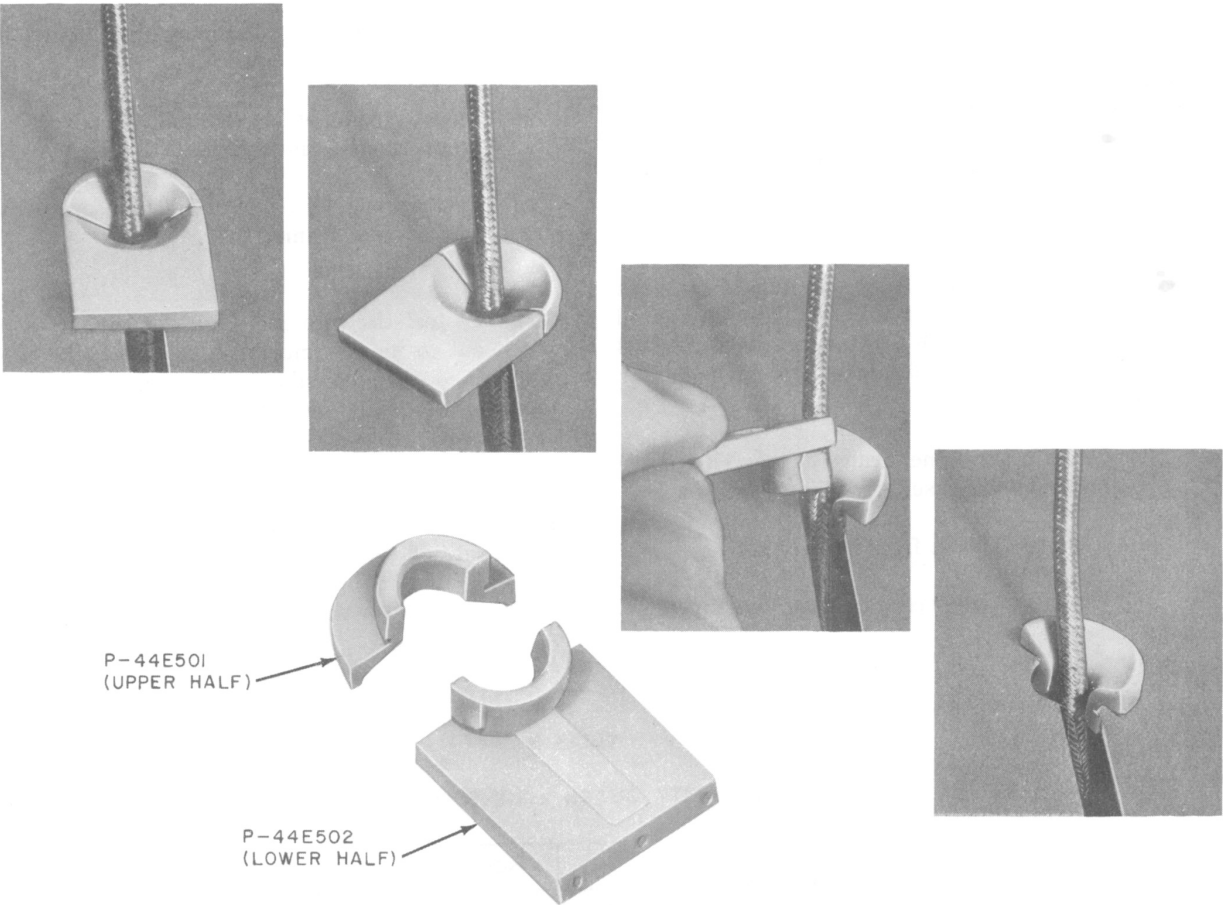

Fig. 3—Removal of Handset Cord Grommet
- (1) Grasp mat retainer frame at top, lift upward and out to release frame from panel of set.
- (2) Remove handset from hook of set.
- (3) Pull out handset cord to allow working slack.
(4) Remove mat from face of panel.
(5) Remove grommet from mat as shown in Fig.3.
(6) Install grommet in new mat by reversing procedure used in removal.
(7) Position mat on panel and secure using the mat retainer frame.